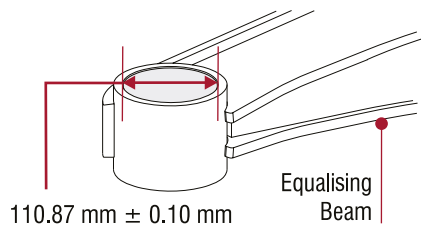

Figure 34: Beam End Dimensions
- The W&C specification for the equalising beam end hub bore diameter is 110 .97 mm to 110 .77 mm, refer Figure 34.